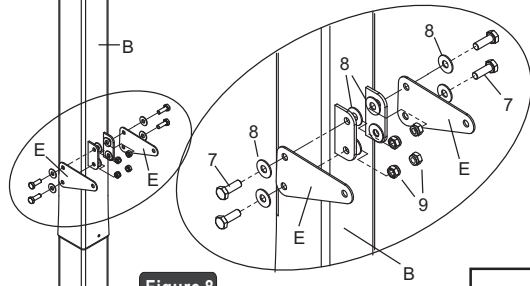

Figure 8
8. Attach Actuator (C) to Lower extension Arm (F).
Slide Actuator plastic sleeve (D) over top of Actuator (C), align the hole in the Plastic sleeve with the hole in the Actuator, slide one Steel Sleeve (#5) thru both parts, see Figure 8. Hold the Actuator assembly, align Steel Sleeve with the Rear hole of Lower extension Arm (F), Attached them together with one Hex bolt M12x205 (#3), two Flat washers M12 (#8), Two Nylon washers (#1) and one Lock nut M12 (#9). Do not over tighten the bolts.
5. Attach Actuator mounting plate (E) to Top Pole (B).
Secure Actuator mounting plate to the bracket welded on backside of Pole (B) with 4 Hex bolts M12x30 (#7), 8 Flat washers M12 (#8), 4 Lock nuts M12 (#9). See **Figure 8**. Tighten all four nuts and bolts.